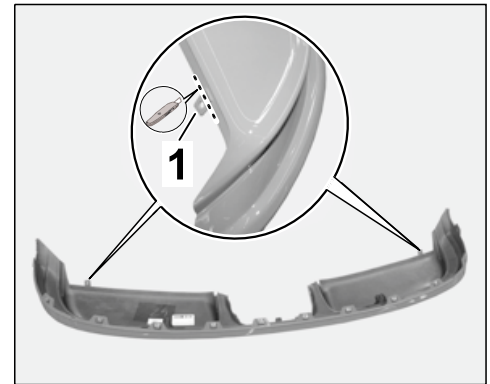

Figure 36
- 6.6 Cut off bar on the painted rear skirt at the left/right ⇒ *Figure 36 -1-* using a suitable tool.